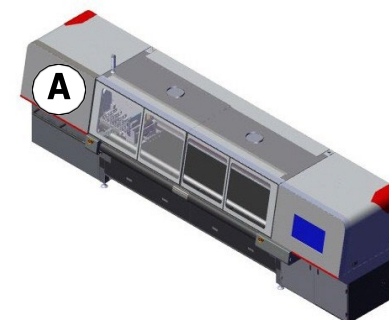

Figure 6-24 Printer Front View
1. Open carriage compartment door, Figure 6-24 location (A).